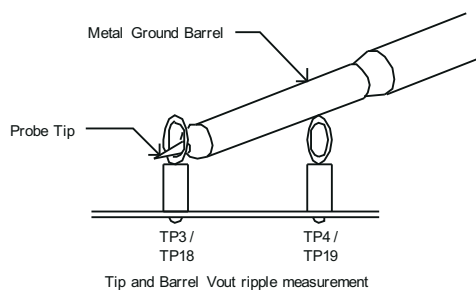

Figure 4-2. Tip and Barrel Measurement Technique (output ripple measurement using TP3 and TP4 or TP18 and TP19)
TPS54383EVM provides two test points for measuring the voltage generated by the module. This allows the user to measure the actual module output voltage without losses from output cables and connectors. All output voltage measurements should be made between TP3 and TP4. To use TP3 and TP4, connect a voltmeter positive terminal to TP3 and negative terminal to TP4. For Output ripple measurements, TP3 and TP4 allow a user to limit the ground loop area by using the Tip and Barrel measurement technique shown in Figure 4-2. All output ripple measurements should be made using the Tip and Barrel measurement.
TPS54383EVM provides two test points for measuring the voltage generated by the module. This allows the user to measure the actual module output voltage without losses from output cables and connector losses. All output voltage measurements should be made between TP18 and TP19. To use TP18 and TP19, connect a voltmeter positive terminal to TP18 and negative terminal to TP19. For output ripple measurements, TP18 and TP19 allow a user to limit the ground loop area by using the Tip and Barrel measurement technique shown in Figure 4-2. All output ripple measurements should be made using the Tip and Barrel measurement.
VIN: The input voltage source (VIN) should be a 0-15 V variable dc source capable of 5 A_{DC}. Connect VIN to J1 as shown in Figure 4-2.
Oscilloscope: A digital or analog oscilloscope can be used to measure the ripple voltage on VOUT. The oscilloscope should be set for 1-MΩ impedance, 20-MHz bandwidth, ac coupling, 1-μs/division horizontal resolution, 10-mV/division vertical resolution for taking output ripple measurements. TP3 and TP4 or TP18 and TP19 can be used to measure the output ripple voltages by placing the oscilloscope probe tip through TP3 or TP18 and holding the ground barrel to TP4 or TP19 as shown in Figure 4-2. For a hands free approach, the loop in TP4 or TP19 can be cut and opened to cradle the probe barrel. Using a leaded ground connection may induce additional noise due to the large ground loop area.
4. Connect oscilloscope probe to TP3 and TP4 or TP18 and TP19 as shown in Figure 4-2.